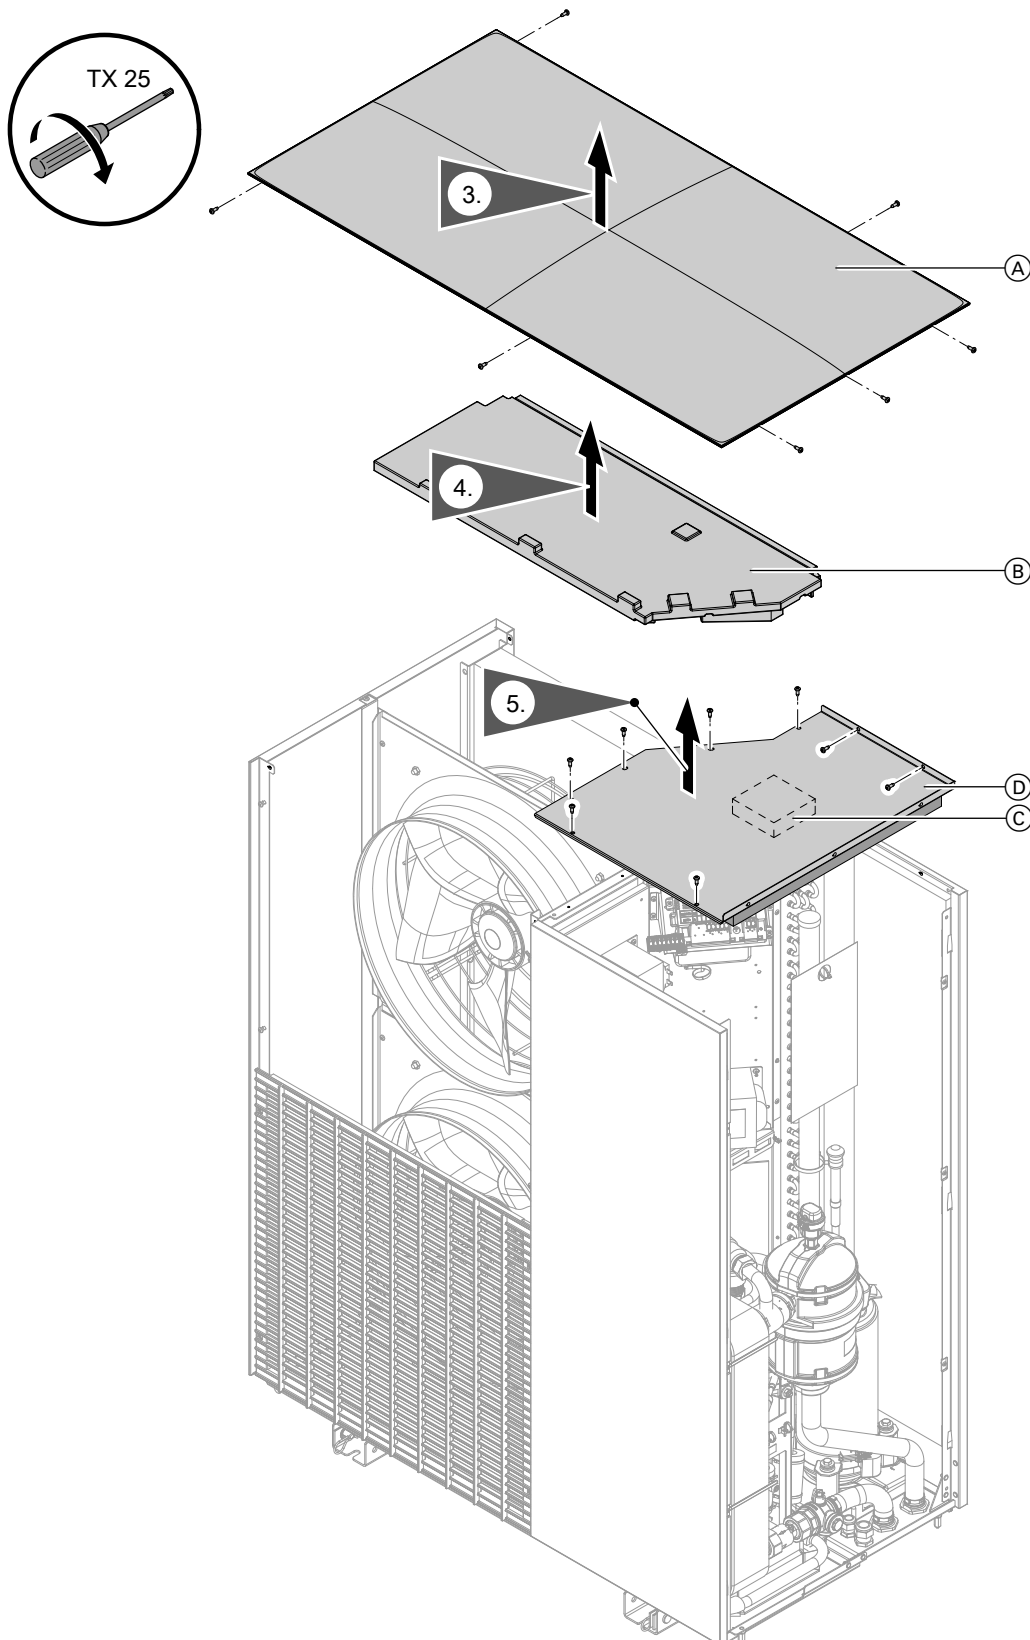

Fig. 98
3. Remove top cover: See Fig. 98.
2. Remove top cover: See Fig. 98.